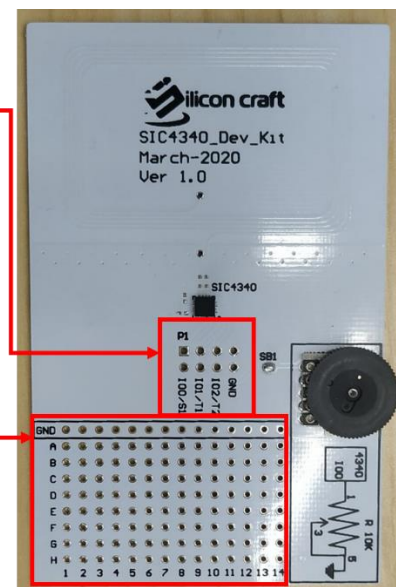

Figure 1: Detail of SIC4340 Dev kit board
2. SIC4340 Dev Kit board as Figure 1